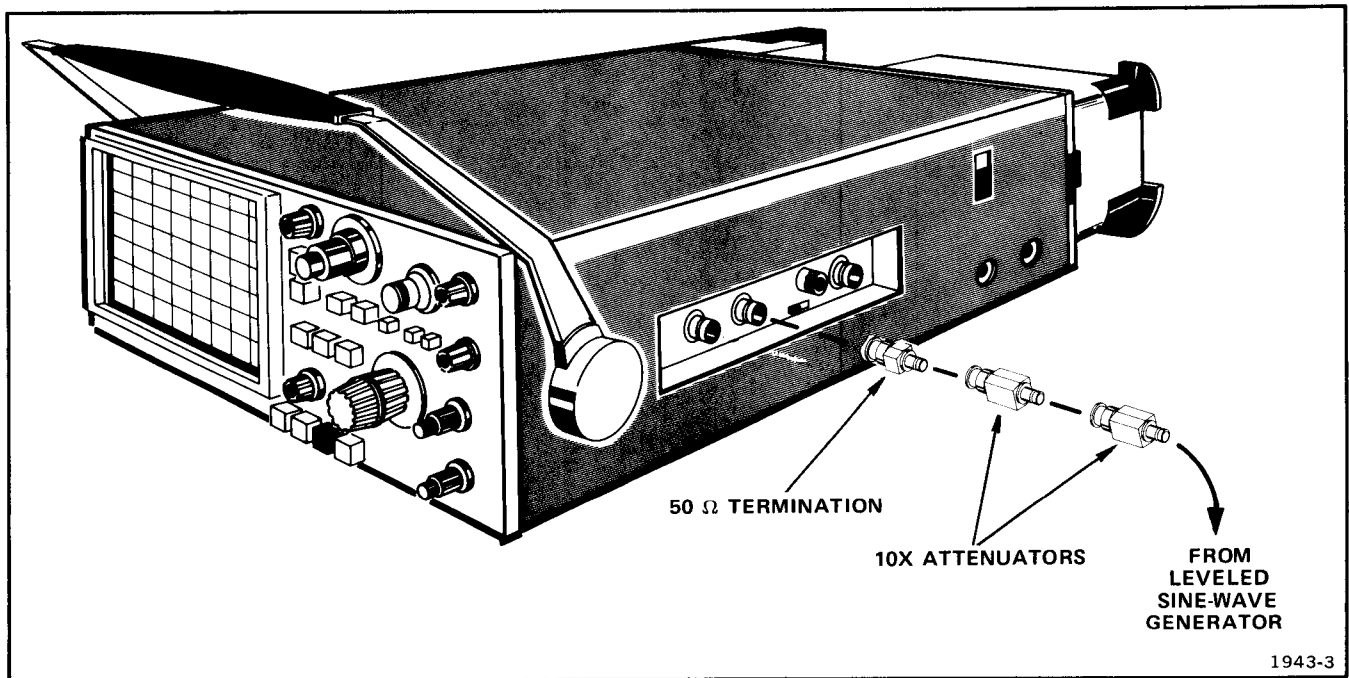

Fig. 5-3. Equipment setup.
a. Connect equipment as shown in Fig. 5-3. Add or remove attenuators as needed to maintain a 6-division display of the reference signal.